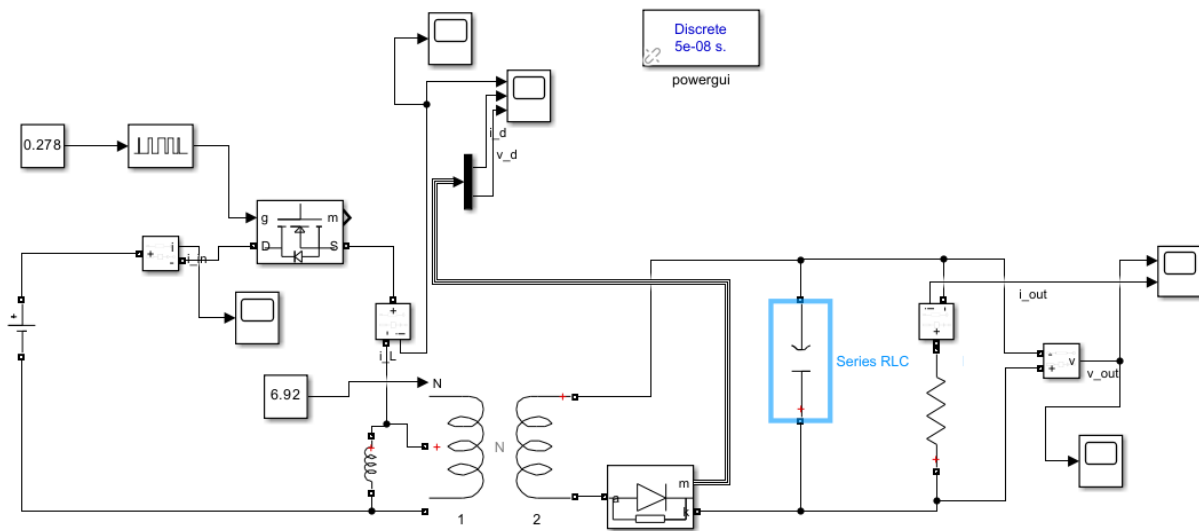

Figure 2: The Flyback converter in Simulink
c. The open-loop flyback design is simulated on Simulink as shown in Figure 2. The circuit is simulated at its edges, namely, 12V input voltage and 0.366 duty and 18V input voltage and 0.278 duty. The simulation results are shown in Figures 3-6 for 0.278 duty and Figures 7-10 for 0.366 duty.